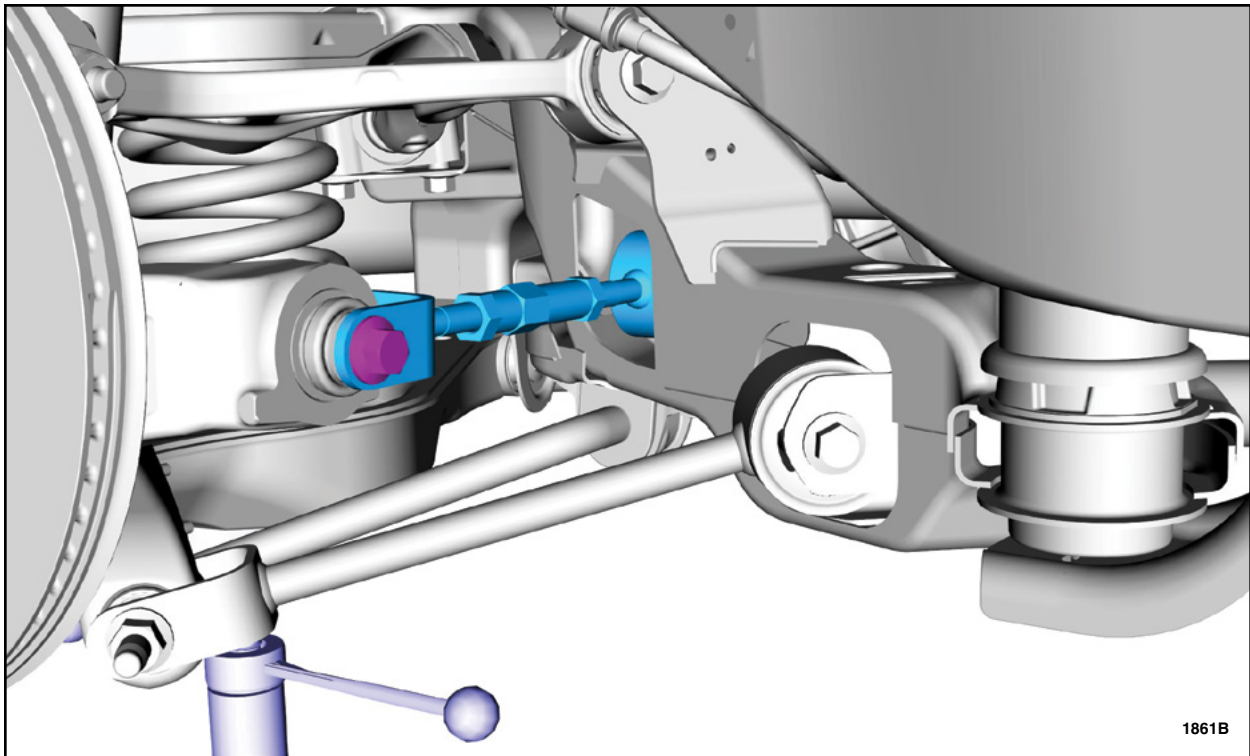

FIGURE 3
6. Remove the toe link-to-wheel knuckle bolt and nut. See Figure 3.